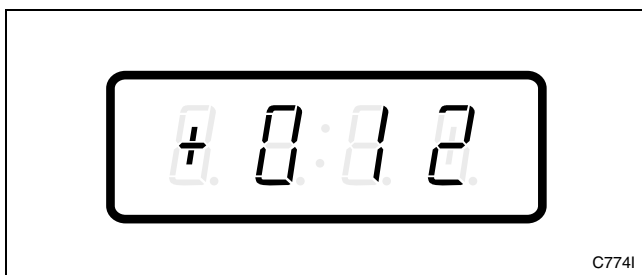

Figure 52
3. Press the LOW TEMP (+) or the NO HEAT (-) keypad to scroll through the programmable options until “+012” appears in the VFD. Refer to *Figure 52*.